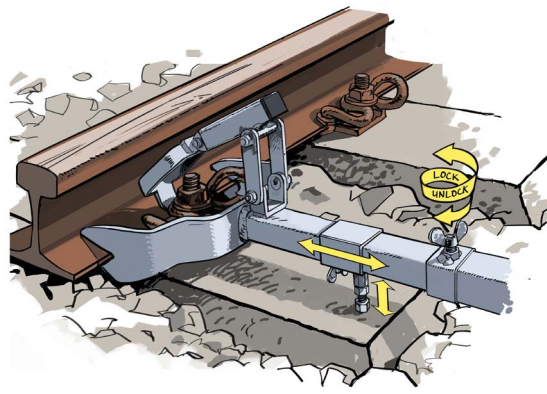

Figure 8
- When using the Safetech Fence the slide support should be pushed as far outward as possible and locked with the wing screw (see fig. 8).
- After unlocking the counter nut, the spacer bolt should be unscrewed until it rests on the sleeper without play. Then tighten the counter nut to lock the spacer bolt (see fig. 8).